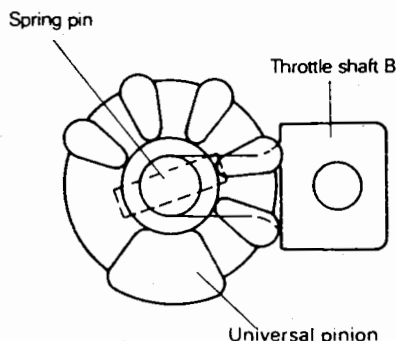

Fig. 88 Attaching the throttle shaft B to universal pinion
- 3) When attaching the throttle shaft B to the universal pinion, please refer to the Fig. 88.